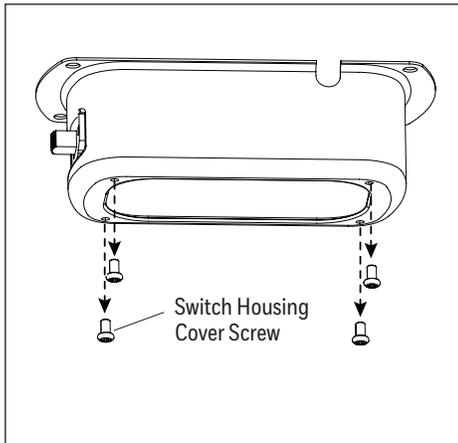

Figure 5.7
- Remove the four switch housing cover screws preassembled to the switch housing. Set aside for later (Figure 5.7).